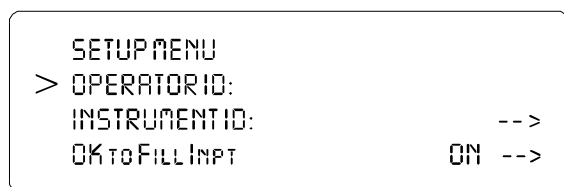

FIG. 28: SETUP MENU
- Step 4. Press the Enter button. The Setup Submenu appears. (See Fig. 28)